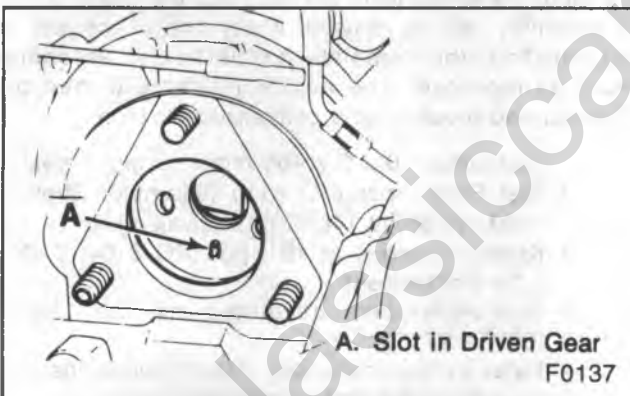

Figure 14—Slot In Injector Pump
3. The slot in the injection pump gear should be in the vertical 6 o'clock position (figure 14). If not, remove J 33042 and rotate the engine crankshaft 360 degrees. The timing marks on the gears will be aligned.